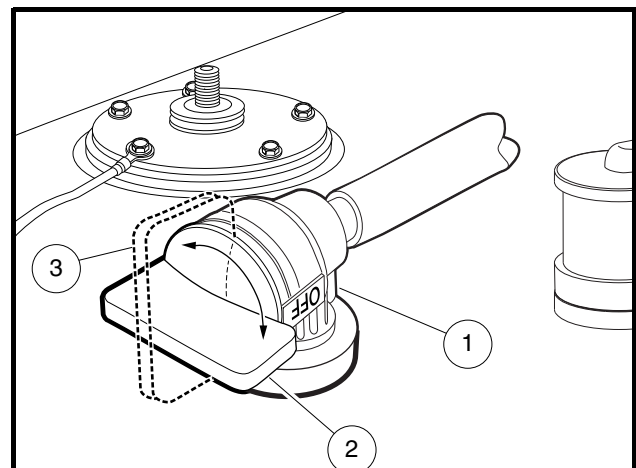

**Figure 3-3 Fuel Shut-off Valve – Closed Position
- Turn fuel shut-off valve to closed (OFF) position (Figure 3-3, Page 3-3).
- 4.1. Place the Forward/Reverse handle in the NEUTRAL position and the neutral lockout switch in the MAINTENANCE position. Turn the fuel shut-off valve to the closed (OFF) position (**Figure 3-3, Page 3-3**) (**Figure 3-4, Page 3-3**) (**Figure 3-5, Page 3-3**) and run the engine until fuel remaining in the carburetor and fuel lines is depleted and the engine stalls. Return the neutral lockout switch to the OPERATE position.